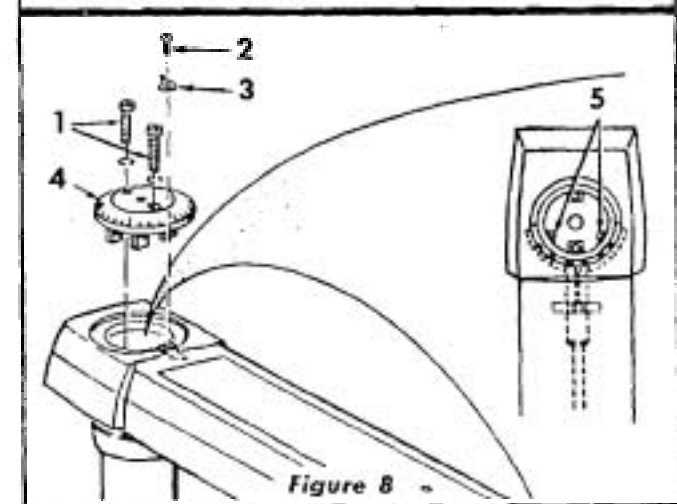

Figure 8
- Remove three screws (1 and 2, figure 8), miter-scale indicator (3) and radial arm cap (4).
- c. Loosen (do not remove) two hex-head screws (5, figure 8) located inside the column tube.
- e. Re-tighten the hex-head screws (5, figure 8) and arm latch handle.
- g. After the cross-cut has been **accurately** squared, install the radial arm cap (4, figure 8), miter-scale indicator (3) and screws (1 and 2). Set the indicator (3) at 0° position.